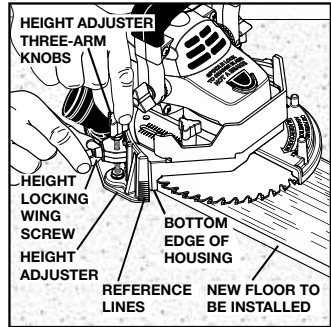

Figure 6
- To prevent saw kickback, the blade must be set parallel to the floor. This can be ensured by checking from the front of the saw that, on BOTH sides of the blade housing, the number of lines below the bottom edge of the blade housing are the same (Figure 5), OR by turning the saw over and making sure the bottom edge of the blade housing is completely parallel with a reference line (Figure 6).
- It may be easiest to set the saw blade flat on top of the new flooring to be fit beneath the desired undercut, and turn the height adjuster three-arm knobs clockwise until the height adjuster rests flat on the floor (Figure 6). From that point, for a snug fit with the new floor, adjust height down by one reference line (one blade thickness).